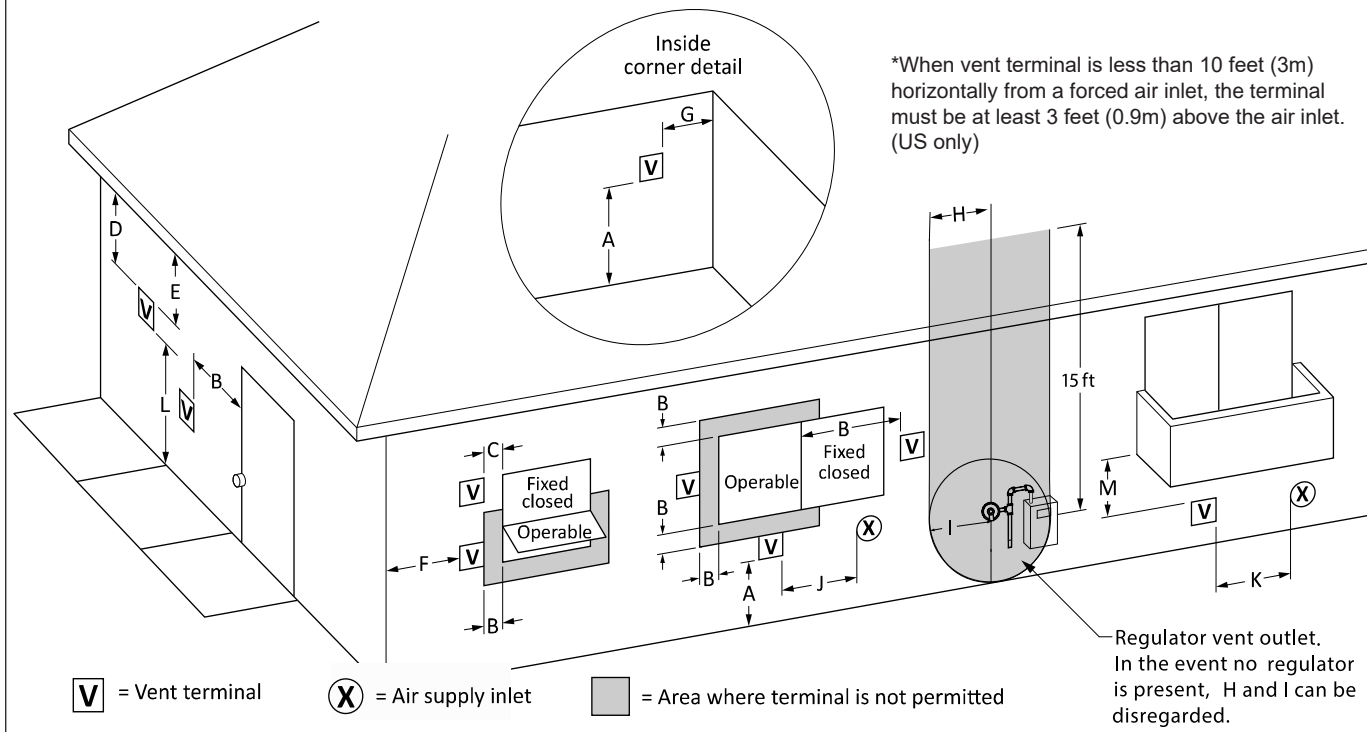

Figure 4. Combustion Air and Vent Through Side Wall.
1. Figure 4 shows the requirements for mechanical vent terminal clearances for the U.S. and Canada.
4. If this pool heater is side-wall vented to the same wall, locate the vent terminal at least 3 feet (0.9m) horizontally from the combustion air terminal, and locate the vent terminal at least 1 foot (0.3m) above the combustion air terminal. (see Figure 4).